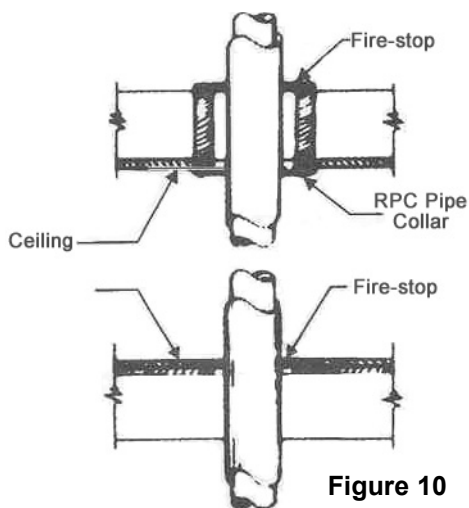

Figure 10
- In single-story, slab-floor houses having an attic space, a firestop must be provided where the vent passes through the ceiling, unless an RSA support is used there. The ceiling should be cut away from the opening frame to **PROVIDE 1-INCH MINIMUM CLEARANCE** from the vent pipe. A firestop consisting of a noncombustible material, such as 1/4-thick ceramic board or 26-gauge galvanized sheet metal, should be cut to fit the pipe and the framed opening. The firestop should be fastened to the top of the joists and framing members to eliminate any pockets in which combustible debris might collect. An RPC pipe collar may be used on the underside of the ceiling to finish off the opening. (See Figure 10.)
- In single-story buildings with an attic space and with the gas appliance located in a basement or crawl space, firestops must be provided where the vent passes through both the floor and the ceiling. This can be done by cutting away and framing the floor and ceiling construction and installing firestops of noncombustible material as shown in Figure 10. All combustible construction should be cut away sufficiently to **PROVIDE THE MINIMUM CLEARANCE OF 1 INCH FROM THE VENT PIPE SURFACE.**